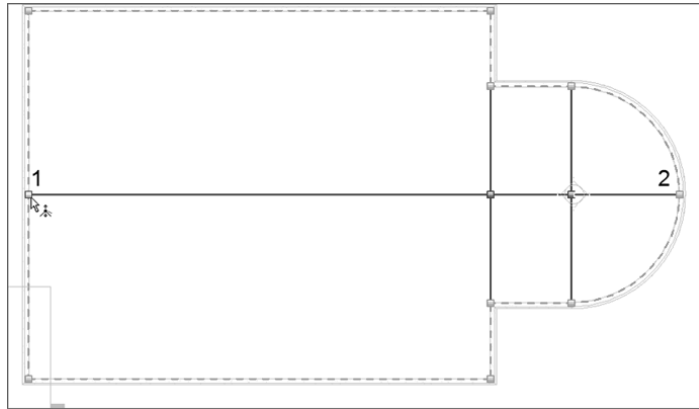

FIGURE 7.9: Drawing a new ridge between the two points
9. Click the Add Split Line button, and draw a ridge across the entire length of the building from point 1 to point 2, as shown in Figure 7.9.